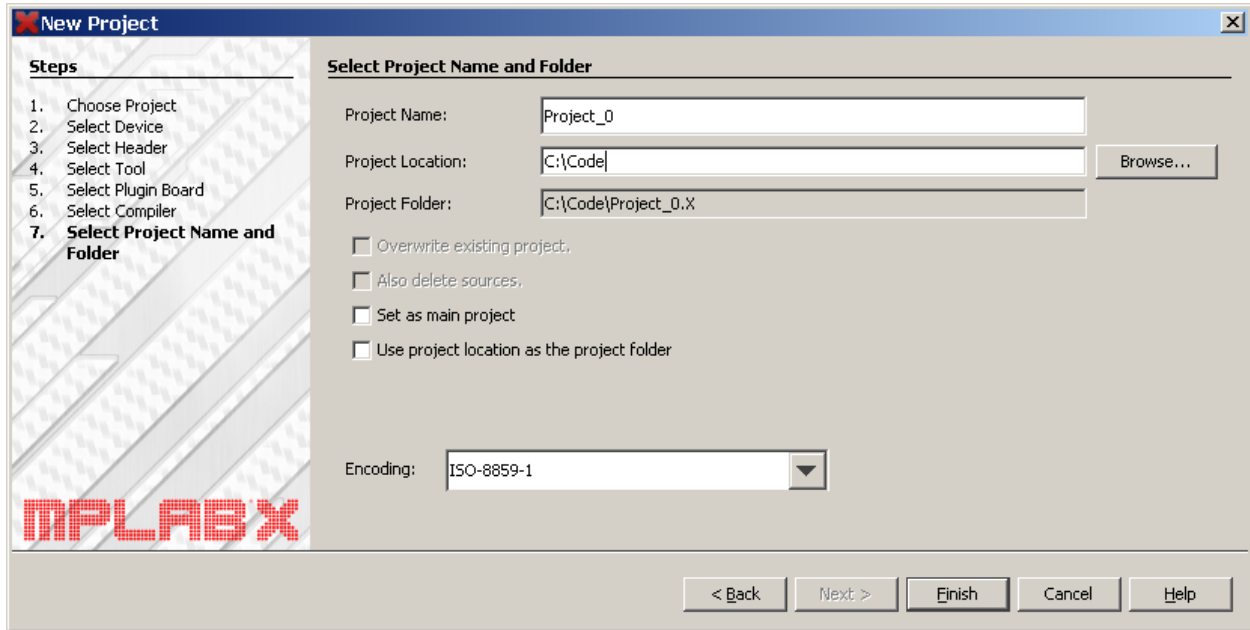
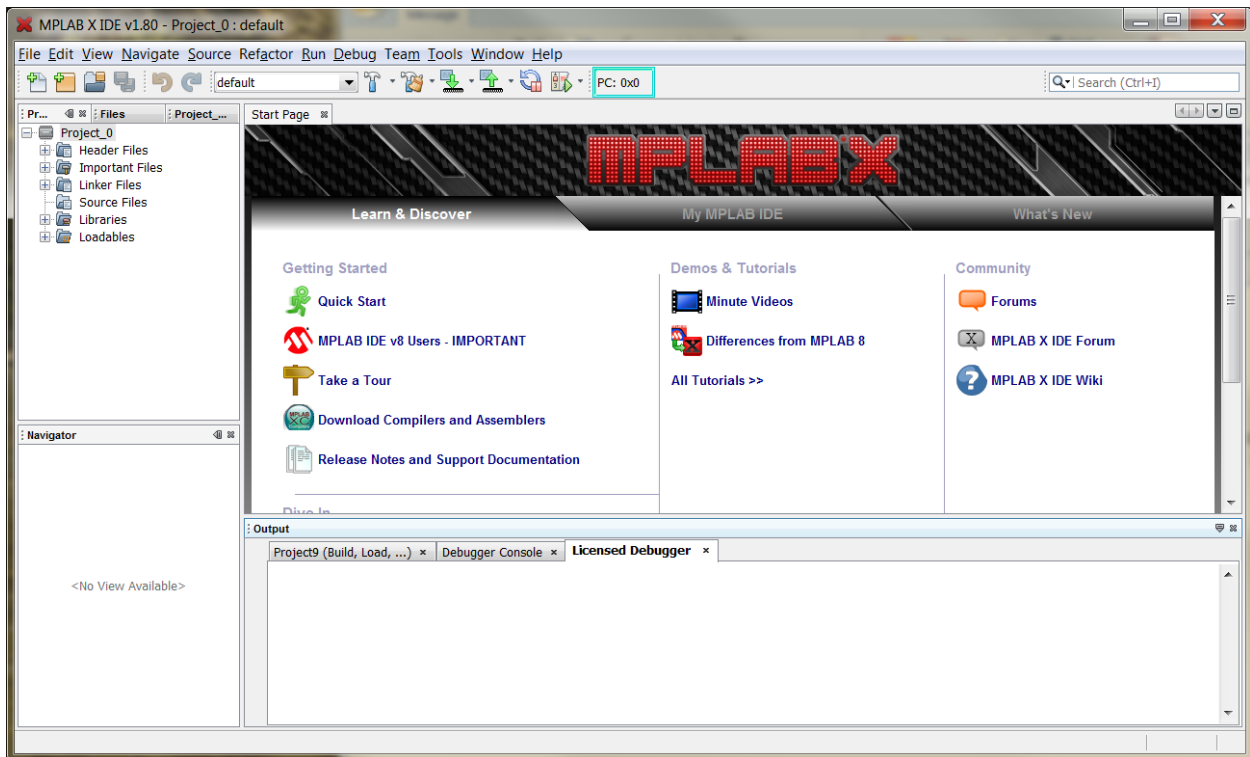

Figure 10. Project location
Figure 11. MPLAB X screen after creating Project 0
- H. Copy the five source files listed above into the Project 0 project folder. As shown in Figure 10, the last step in creating a project, allows you to specify where the project will be stored. This example shows that the source files are located in a folder named C:/code. You will specify a file location of your own choosing. The project Location is where we will put the five
source files for Project 0. Use the default setting for the remaining options. Click on **Finish** to complete the process of creating a project. The MPLAB X IDE window should now appear as shown in Figure 11. (The Encoding selection shown in Figure 10 refers to the keyboard character set.)